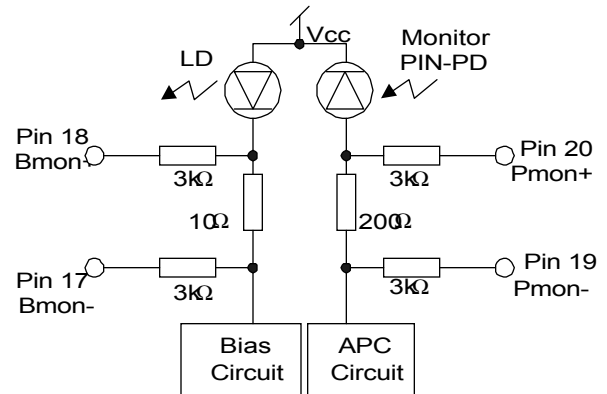

Figure 3 Bmon and Pmon Interface
- Refer to figure 3 for details of Bmon and Pmon outputs.
8. The Laser Bias Monitor Current and Rear Facet Monitor Current are calculated as ratios between the corresponding voltages and current sensing resistors, 10Ω and 200Ω, as shown in the figure 3.